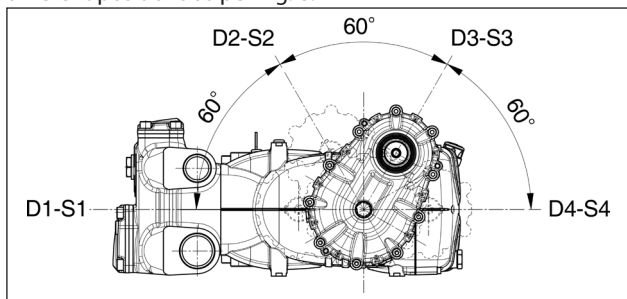

Fig. 6
~ 4.8 liters for versions with a reduction unit in pos. ① and ④ (Fig. 6) This amount will be slightly lower for pos. ② and ③.
In addition it is possible to position the reduction unit in 4 different positions as per Fig. 6.